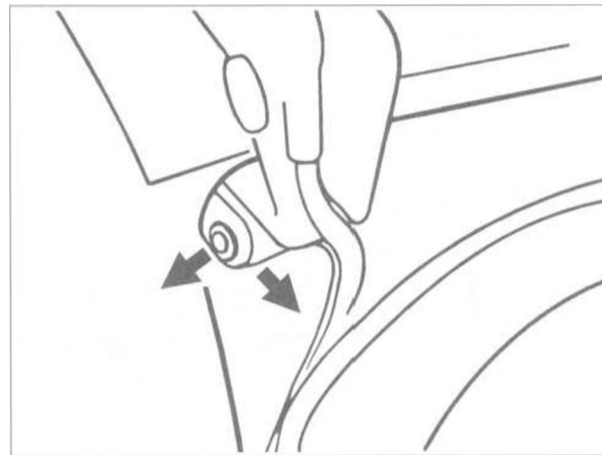

Fig. 12. Remove retaining clip from end of support strut and pull off of hinge arm.
6. Remove retaining clip from end of support strut and disconnect end of strut from hinge arm. See Fig. 12.